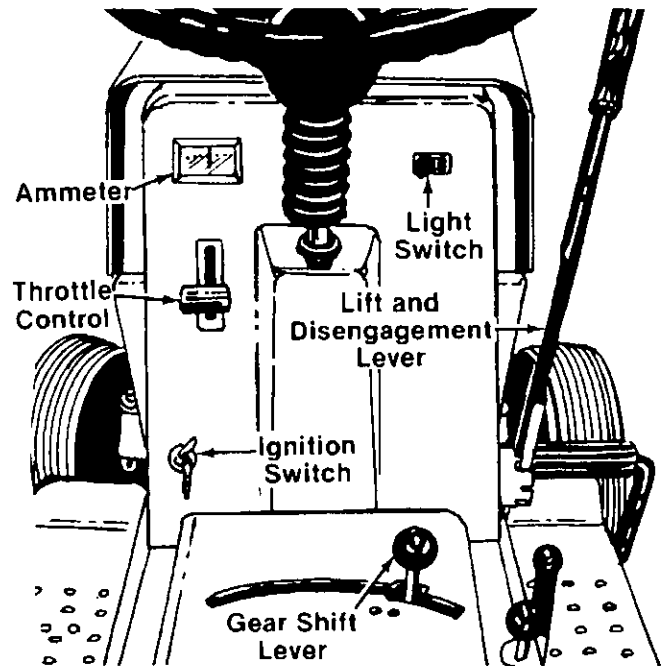

FIGURE 14.
The throttle control is used to regulate the engine speed and to activate the choke on the engine. To get maximum efficiency from cutting, the throttle should be in the FAST position when operating the mower. Pushing the throttle all the way forward past FAST, will choke the engine. See figure 14.
The gear shift lever is used to shift into one of the forward gears, "NEUTRAL" or "REVERSE." See figure 14.
Turn the key to the "START" position to start the engine. When the engine is running, let the key return to the "ON" position. To stop the engine, turn the key to the left to the "OFF" position and remove it to prevent accidental starting. See figure 14.
Push the light switch to turn on the lights. The lights will only operate when the engine is running. See figure 14.
should register on the opposite side (charging) when the engine is running in the fast position until the battery is completely charged. With a fully charged battery or with the engine idling, the ammeter will not show a charge. See figure 14.
The lift and disengagement lever is used to raise and lower the cutting deck. Pulling it all the way back and locking it disengages the blades. The lift and disengagement lever **must** be in the disengaged position when starting the engine and when shifting into reverse. See figure 14.
4. Set the throttle control in the CHOKE position. See figure 14.
5. Turn the ignition key to the "START" position. When the engine is running, let the key return to the "ON" position. See figure 14.